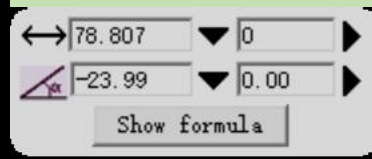

Figure4-12
3.Right-click to end and enter data (as shown in Figure 4-12).